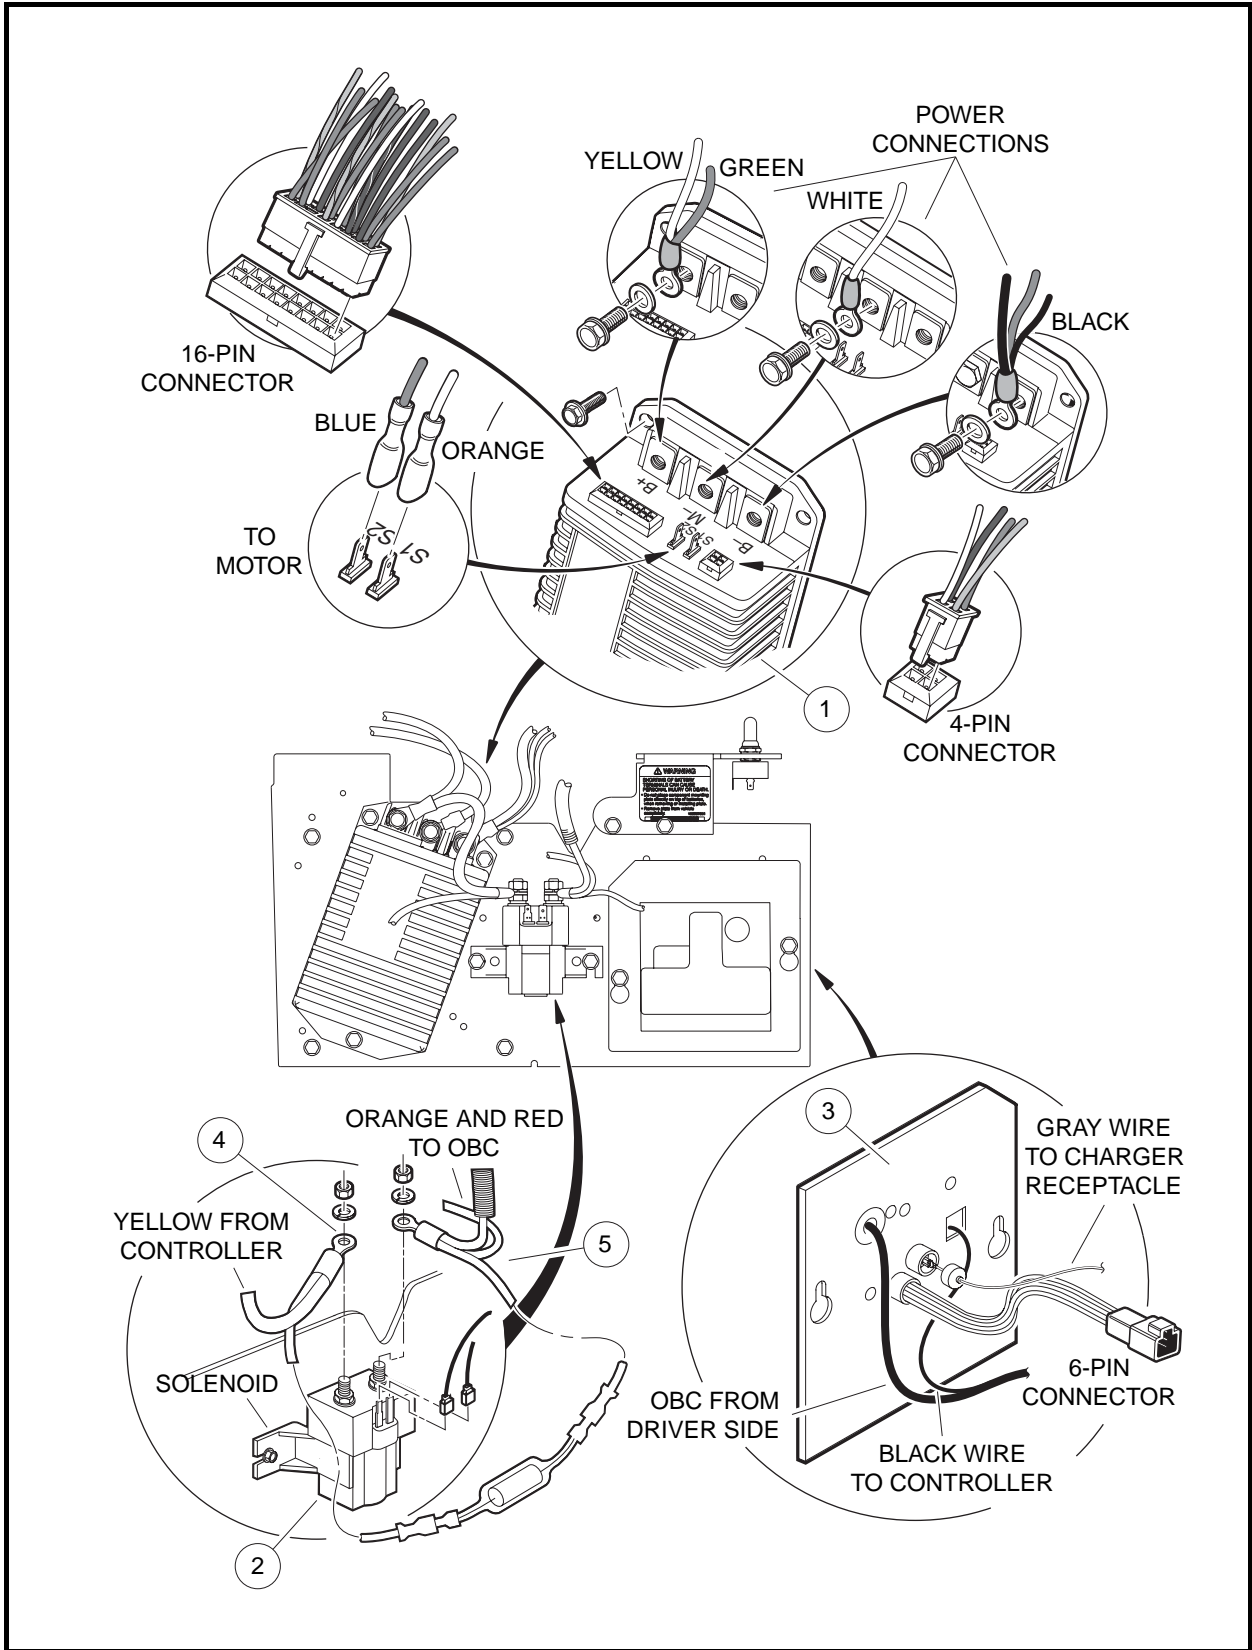
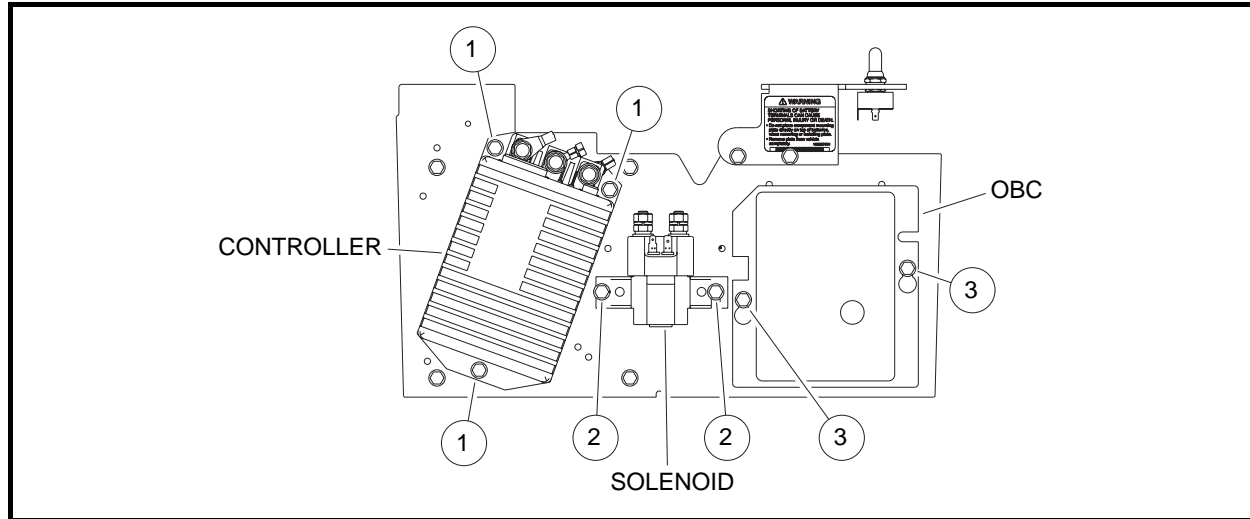

Figure 12-9 Electronics Module Removal
Figure 12-10 Component Mounting Plate
3. Remove three power-connection screws on top of the controller (1) and remove the wires from the screw threads (**Figure 12-9, Page 12-9**).
5. Remove two nuts on top of the solenoid (2) posts and remove the wires from the posts.
7. On driver side of the electronic module, separate the 6-pin connector and disconnect all leads to the on-board computer (OBC) (3) and two wires to tow switch.
4. Remove the three self-tapping screws (1) that hold the controller to the component mounting plate and remove the controller from the vehicle (**Figure 12-10, Page 12-12**).
1. Install the three self-tapping screws (1) that hold the controller to the component mounting plate and tighten to 5.5 ft-lb (7.5 N·m) (**Figure 12-10, Page 12-12**).
4. Loosen both solenoid mounting screws (2) (**Figure 12-10, Page 12-12**).
1. Mount solenoid onto component mounting plate with screws (2) (**Figure 12-10, Page 12-12**).
2. Tighten screws (2) to 5.5 ft-lb (7.5 N·m).
3. Connect yellow (4) and red (5) wires (**Figure 12-9, Page 12-9**). Tighten to 72 - 84 in-lb (8 - 9.5 N·m).
3. Disconnect wires (**Figure 12-9, Page 12-9**).
4. Loosen, but do not remove, the two self-tapping screws (3) holding OBC to component mounting plate (**Figure 12-10, Page 12-12**).
5. Slide OBC upwards to align heads of self-tapping screws (3) with the two key holes in the OBC face plate and remove OBC.
1. Install the OBC onto the component mounting plate by aligning the two holes on the OBC face plate with two holes on component mounting plate. Slide OBC down and align heads of self-tapping screws (3) with smaller part of two holes in OBC face plate (**Figure 12-10, Page 12-12**). Tighten screws to 5.5 ft-lb (7.5 N·m).
2. Connect wires (**Figure 12-9, Page 12-9**). Make sure all connections are fully seated and boot on gray sense lead is properly seated.